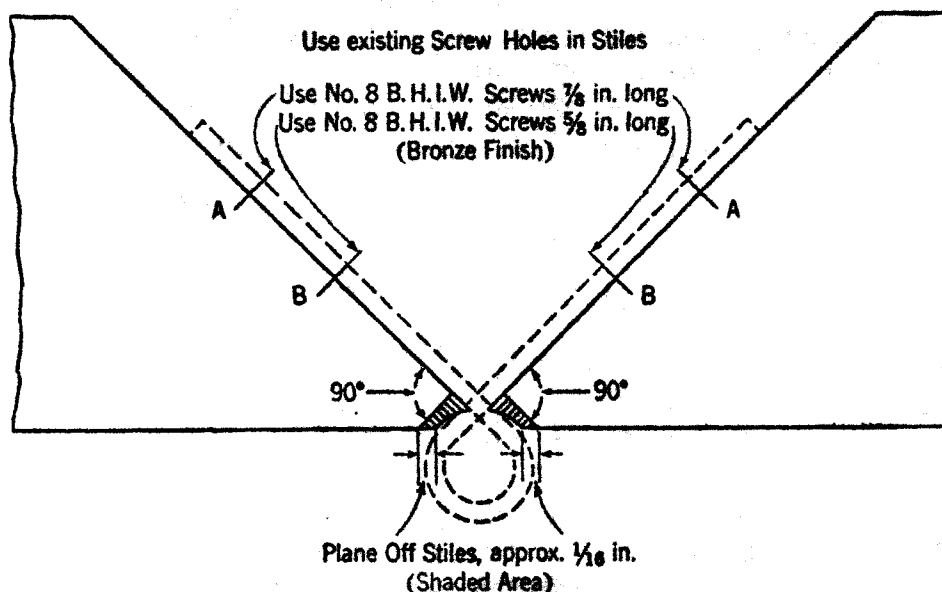

Fig. 9
3.05 When a worn or defective bronze piano hinge is replaced by a steel hinge (P-370242) it is necessary to plane the beveled booth door stiles as indicated in Fig. 9 so that the new hinge may be properly seated. Existing screws used to secure the bronze hinge should be replaced with No. 8 $\frac{7}{8}$ -inch Binding Head Bronze Finish Wood Screws at location "A" and No. 8 $\frac{5}{8}$ -inch Binding Head Bronze Finish Wood Screws at location "B" (see Fig. 9).